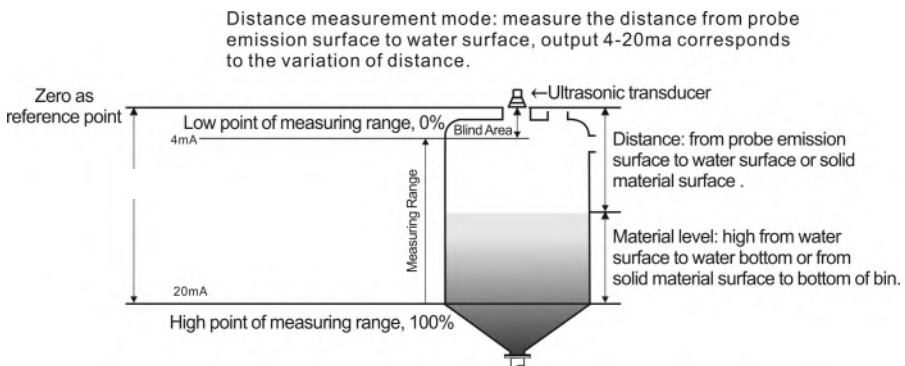

Fig. 1.1 Diagram of Distance Measurement
(3) Input **probe height value** to “**reference zero point**” (probe height is the distance from probe emitting surface to tank bottom or pool bottom).
① Under distance measuring mode, setting of **reference zero point** is meaningless and the positions of **maximum of measuring range** and **minimum of measuring range** are as shown in Fig. 1.1.